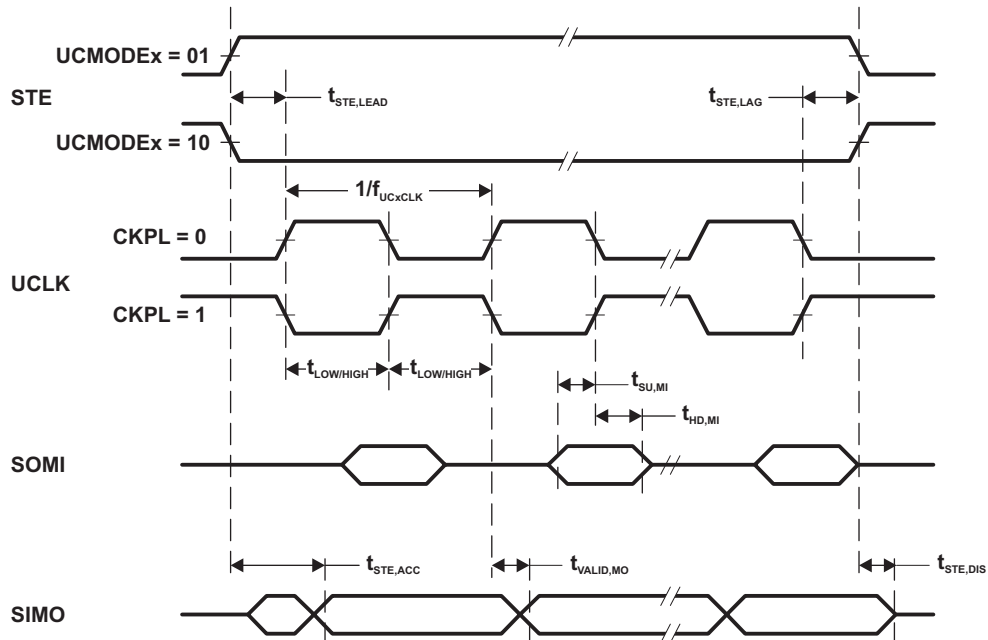
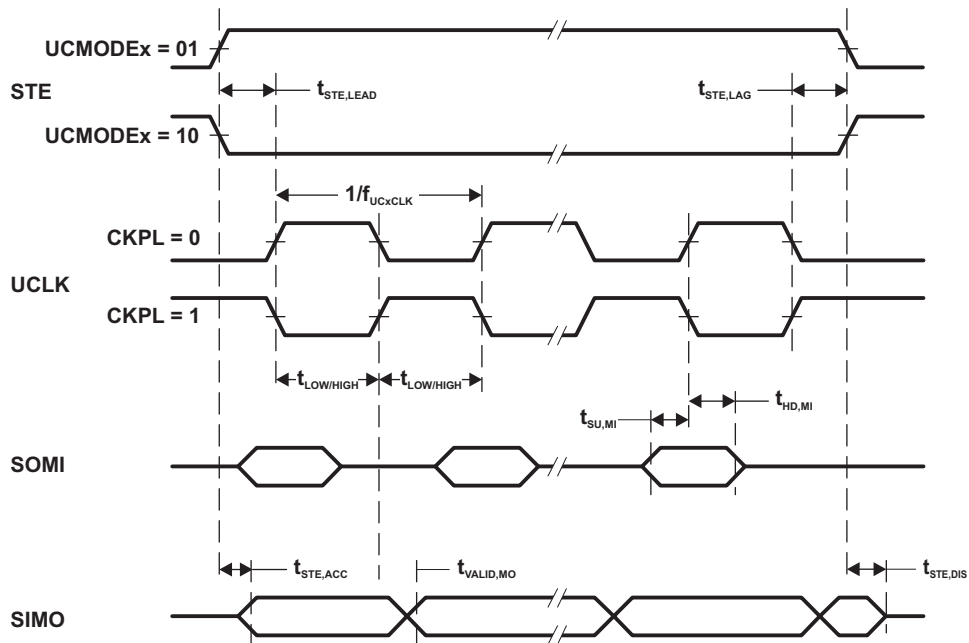

Figure 7. SPI Master Mode, CKPH = 0
Figure 8. SPI Master Mode, CKPH = 1
- (2) Specifies the time to drive the next valid data to the SIMO output after the output changing UCLK clock edge. See the timing diagrams in Figure 7 and Figure 8.
- (3) Specifies how long data on the SIMO output is valid after the output changing UCLK clock edge. Negative values indicate that the data on the SIMO output can become invalid before the output changing clock edge observed on UCLK. See the timing diagrams in Figure 7 and Figure 8.